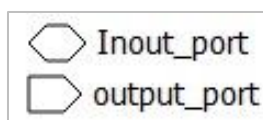

**Figure 2.102. Create Port Dialog Box**
- a. Right-click in the Schematic view and choose **Create Port**. The Create Port dialog box pops up (Figure 2.102).